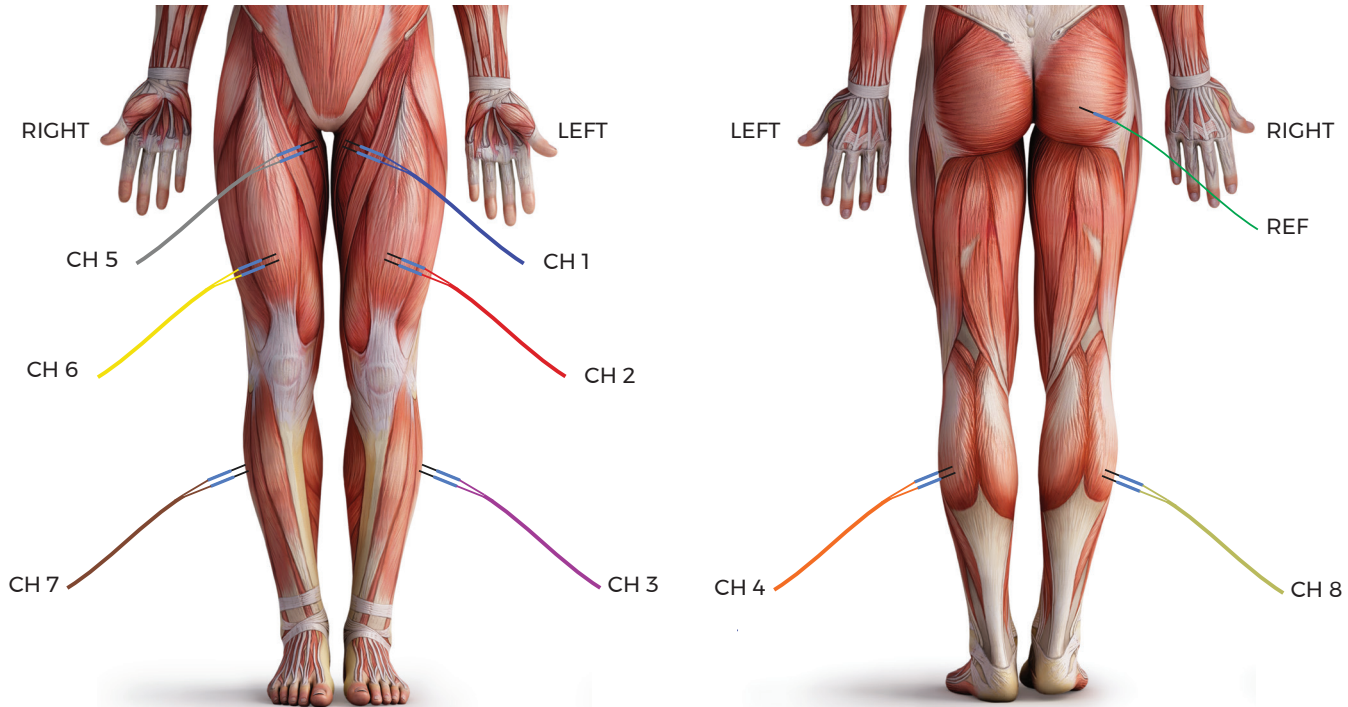

Figure 16.1: Suggested electrode placement for monitoring of nerve root decompression.
2. Look at Figure 16.1 (page 34) to decide which nerve roots are to be monitored.